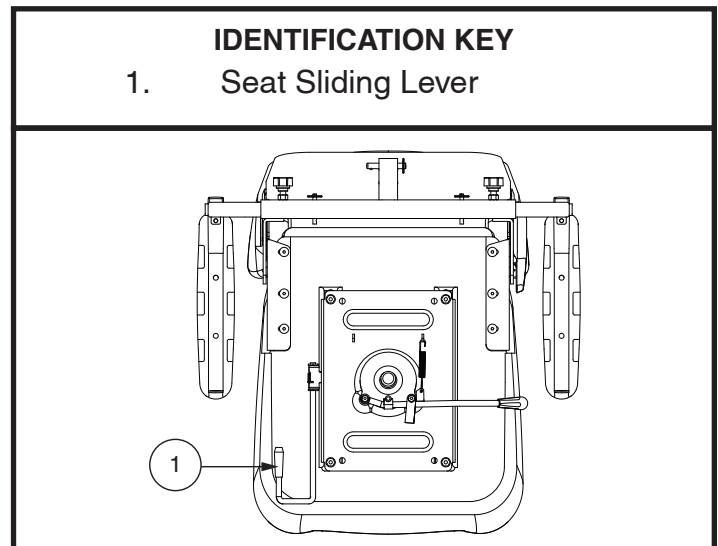

Figure 14. Seat Sliding Lever
1. Move the seat sliding lever (located at the lower left side of the seat) outward. **See figure 14.**